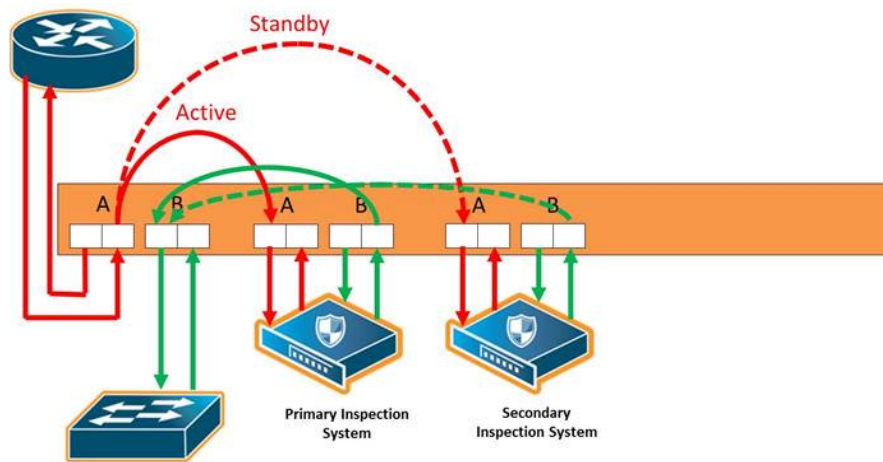

Figure 18 Inline Tool Group With Spare, Redundant 1+1 Scenario
- 1+1 redundancy—single inline tool with a spare inline tool. Refer to Figure 18 Inline Tool Group With Spare, Redundant 1+1 Scenario.
Refer to Figure 18 Inline Tool Group With Spare, Redundant 1+1 Scenario for an inline tool group with a single inline tool and a spare inline tool configured. This is also referred to as 1+1 redundancy or N+1 redundancy where N equals 1. In Figure 18 Inline Tool Group With Spare, Redundant 1+1 Scenario, traffic is only shown from A-to-B.